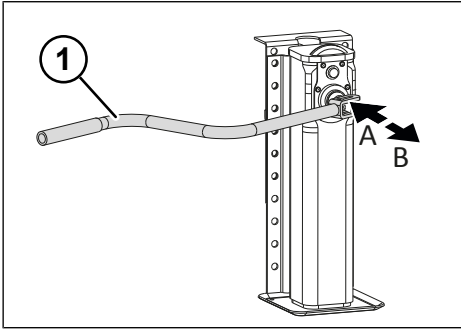

Fig. 5-5: Load speed and high speed of the rear brace
- ▶ Switch on high speed by pulling out the hand crank (see "Fig. 5-5: Load speed and high speed of the rear brace", pg. 28).
- ▶ Switch on load speed by pushing in the hand crank (see "Fig. 5-5: Load speed and high speed of the rear brace", pg. 28).
- ▶ Set to load speed by pushing in the hand crank (see "Fig. 5-5: Load speed and high speed of the rear brace", pg. 28).
- ▶ Set to high speed by pulling out the hand crank (see "Fig. 5-5: Load speed and high speed of the rear brace", pg. 28).